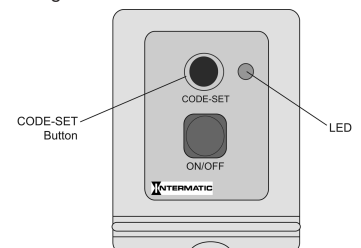

Figure 3 RC613R Receiver
- 2) On the receiver, press the **CODE-SET** button. The adjacent LED illuminates. See Figure 3.